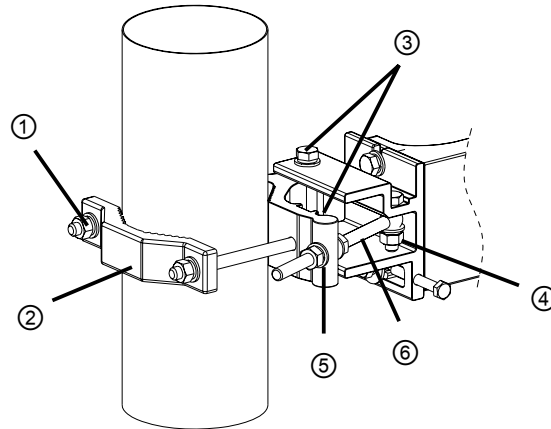

Fig 6.1
Referring to Fig 6.1, slightly loosen the 2 nuts ① of the Clamp ②. Then push the whole antenna structure slowly around the mounting pole. Point the antenna approximately in the correct direction. Use a compass/GPS to determine the far end position if necessary, and then tighten the nuts ①.